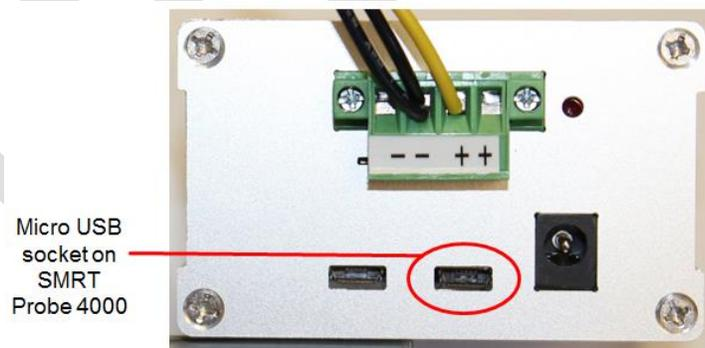

Figure 6: SMRT Probe 4000 micro USB cable socket
1. Connect the micro USB cable to the SMRT Probe 4000 micro USB cable socket shown in Figure 6.